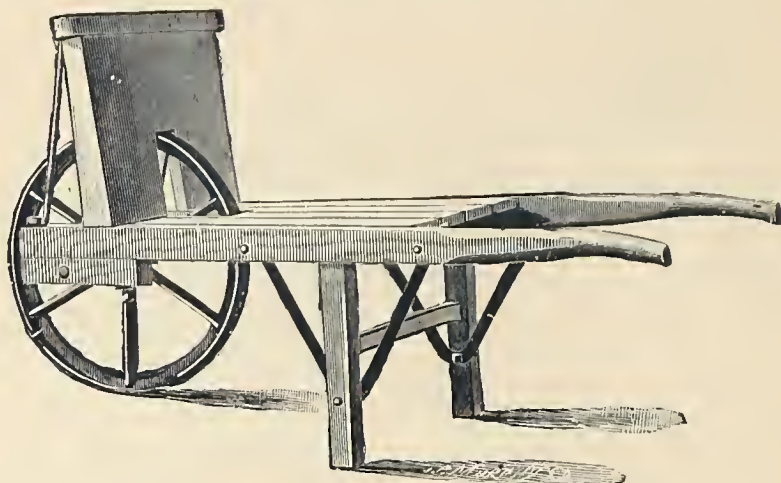

Fig. B 541.—Brick Barrow.
*The Brick-Barrow*, illustrated at *Fig. B 541*, is one of a number of forms we make for this purpose. This has a cast-iron wheel, and is strongly bolted and braced. A lighter wheel with cast hub and rim, and steel spokes, is now more generally used. We can furnish either open bottom or tight bottom barrows as desired.